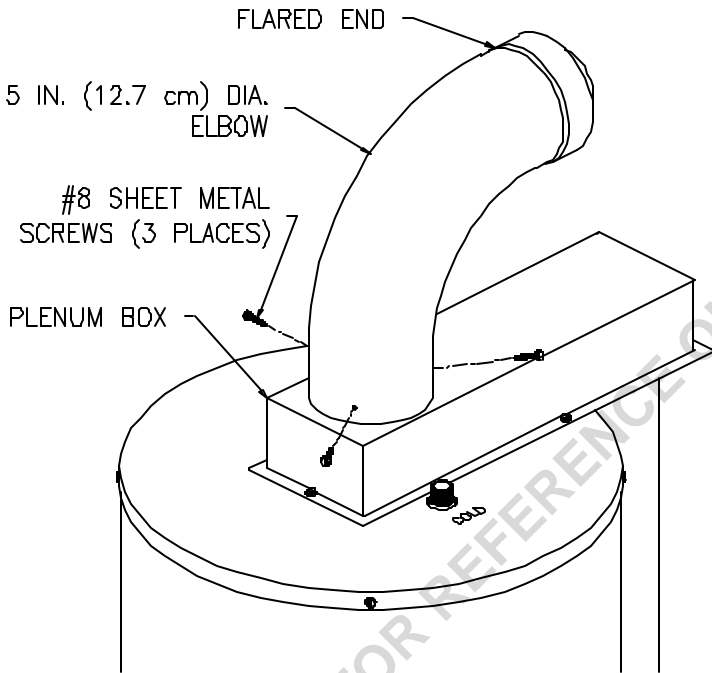

Figure 9
6. Place the straight end of the five (5) inch (12.7 cm) diameter elbow over the three (3) inch (7.6 cm) diameter elbow and plenum collar until seated on top of the plenum box. Make certain that the five (5) inch (12.7 cm) diameter elbow is oriented in the same direction as the three (3) inch (7.6 cm) diameter elbow and both are oriented in the correct direction. Drill three (3) 1/8 inch diameter holes, 120° apart, through the five (5) inch (12.7 cm) diameter elbow into the plenum collar. Fasten with three (3) #8 sheet metal screws (supplied) (See Figure 9).